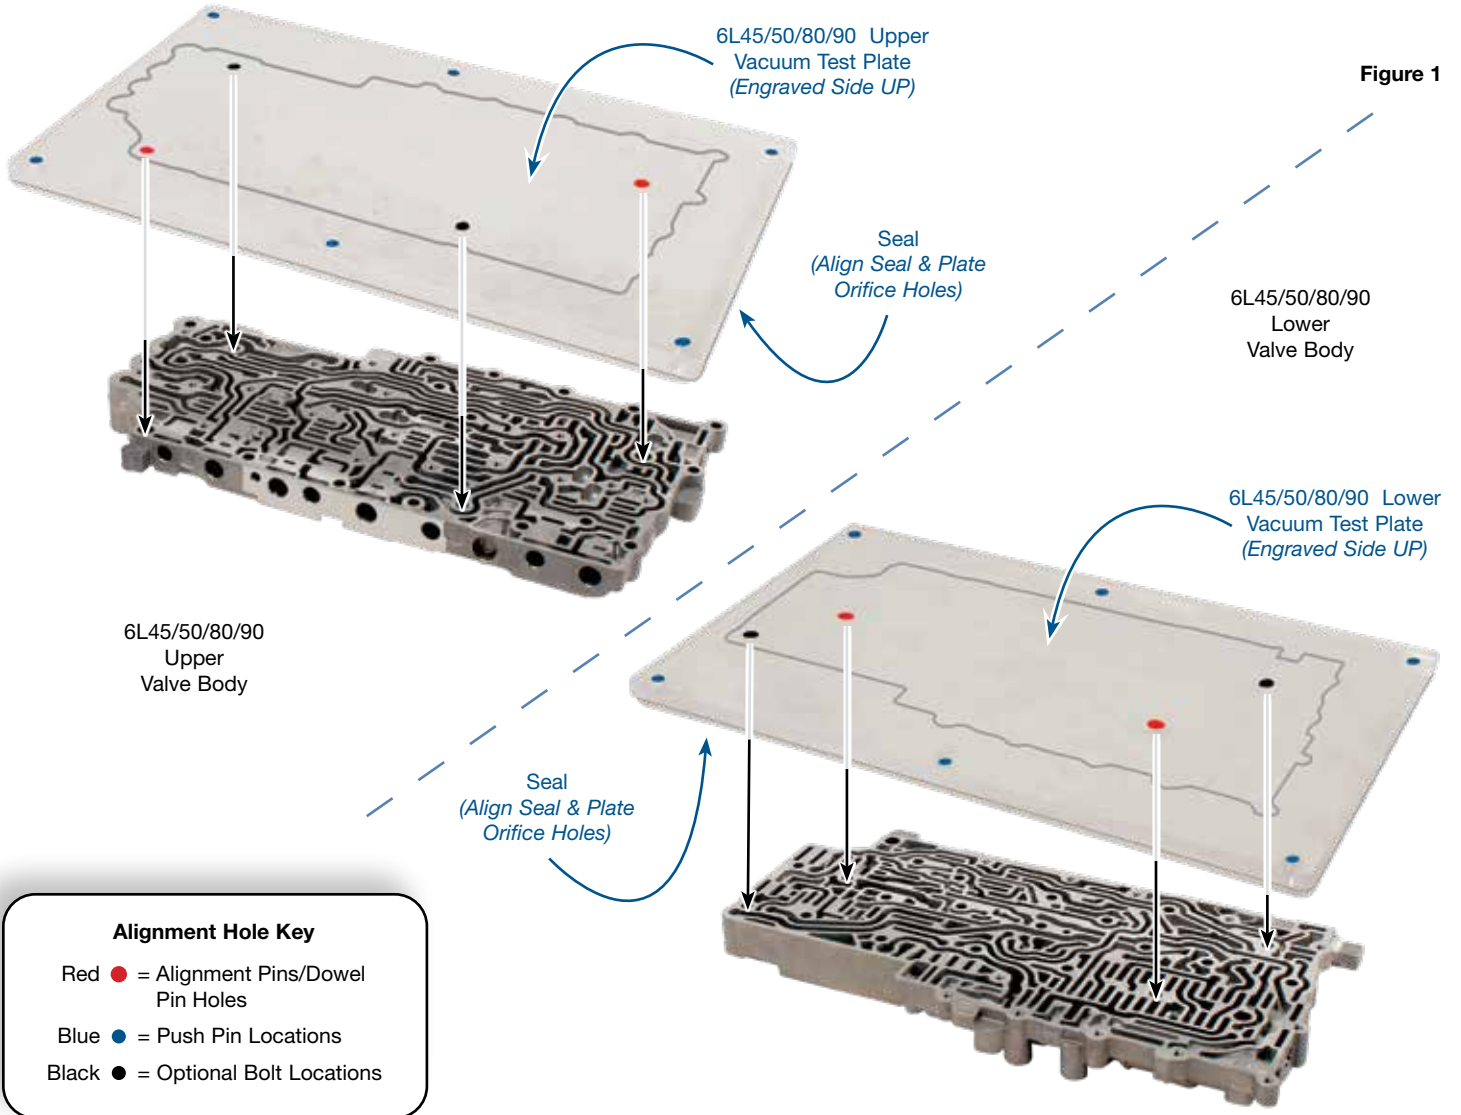

Figure 1
- b. Install two alignment pins into lower valve body plate at indicated threaded holes. Thread into non-engraved side of plate (**Figure 1**). The upper valve body plate has two holes that align with the OE dowel pins in the casting.